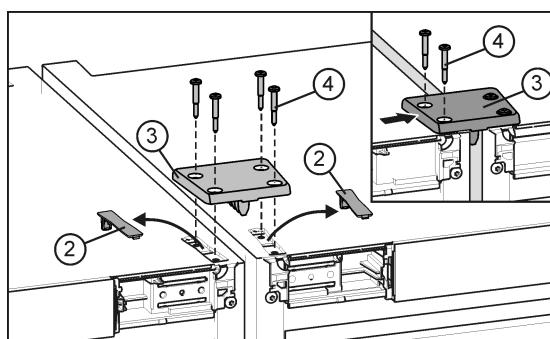

Fig. 22
- Release and remove the covers Fig. 22 (2).
- Fit a connecting plate Fig. 22 (3) and fix loosely to one appliance with two screws Fig. 22 (4).